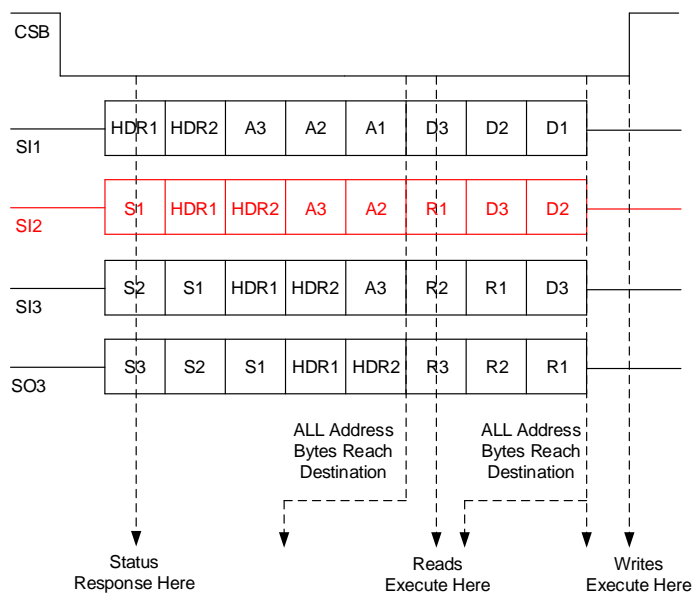

Figure 20. Daisy Chain SPI Operation
The device is designed to support daisy chain operation with other devices that utilize the same SPI protocol, as demonstrated in Figure 20. In this setup, the controller's output (MO) is connected to the serial input (SI) of the first peripheral device. The serial output (SO) of this device is then connected to the SI of the next peripheral, forming a chain. The SO of the last peripheral in the chain is linked to the controller's input (MI), completing the SPI communication loop.
In the daisy chain configuration depicted above, the first device in the chain receives data from the controller in the following format, as shown in SI1 of Figure 20:
Once the data has been transmitted through the chain, the controller receives it back in the format illustrated in SO3 of Figure 20:
The device is capable of determining its position in the chain by counting the number of Status bytes that follow the Header byte. As illustrated in Figure 20, Device 2 identifies its position by recognizing one Status byte ( $S_1$ ) following the Header, while Device 3 identifies two Status bytes ( $S_1$ ,  $S_2$ ) behind the Header. When the device determines the position and the total number of devices connected in the chain, each device can load the relevant address and data bytes into its buffer, effectively bypassing irrelevant bits. This method ensures efficient operation, even in a chain comprising up to 63 devices.